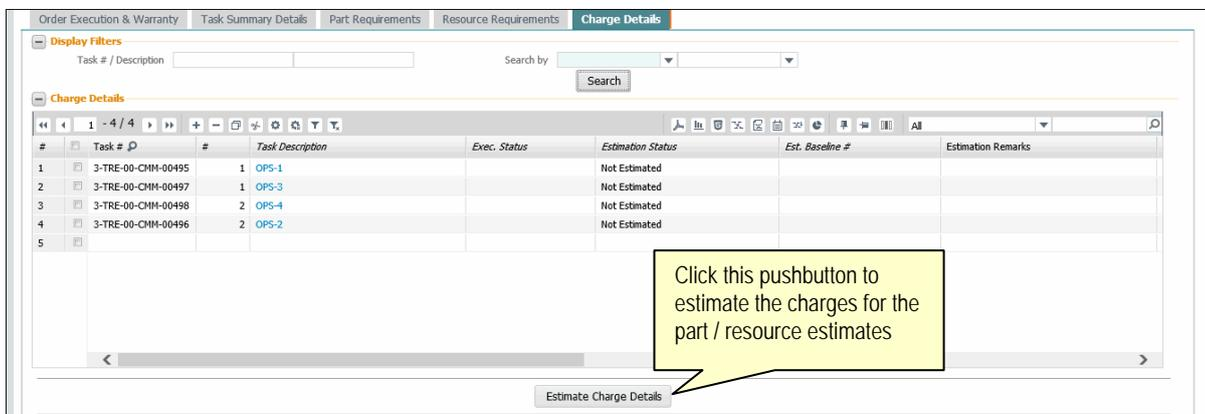

Figure 2.15 Estimating charges
1. Select the **Review Work Execution and Report Actuals** activity in the **Work Monitoring and Control** business component. The **Review Work Execution and Report Actuals** page appears. See figure 2.15.